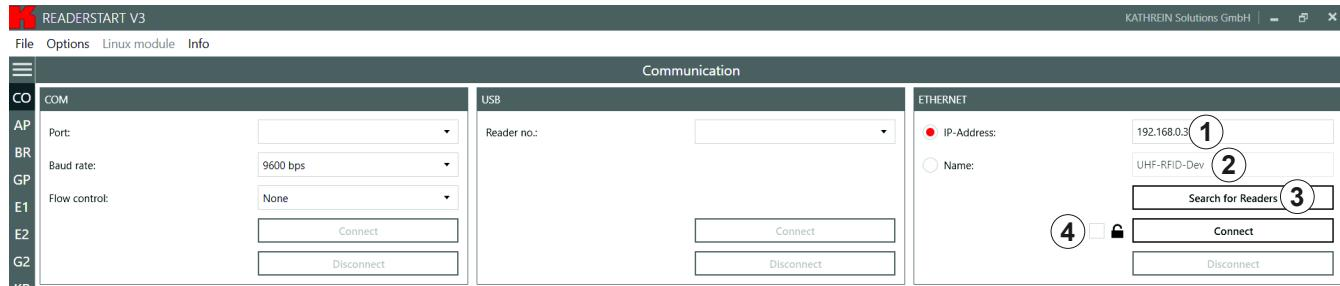

Fig. 21: Establishing connection to the reader
1. Click the *IP address* field (① in Fig. 21).
1. Click the *Name* field (② in Fig. 21).
► To allow only secure SSH connection with an encrypted transmission to the reader, check the box next to the lock symbol (④ in Fig. 21); see also *Establishing a Secure Connection*, p. 68.
3. In the *Ethernet* block, click *Search for Readers* (③ in Fig. 21).